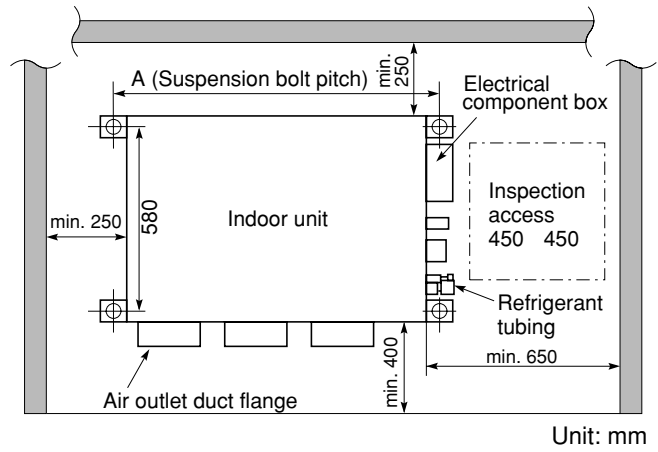

Fig. 3-56
- The minimum space for installation and service is shown in Fig. 3-56 and Table 3-3.
- (1) When placing the unit inside the ceiling, determine the pitch of the suspension bolts referring to the dimensional data on the previous page. (Fig. 3-56 and Table 3-3)